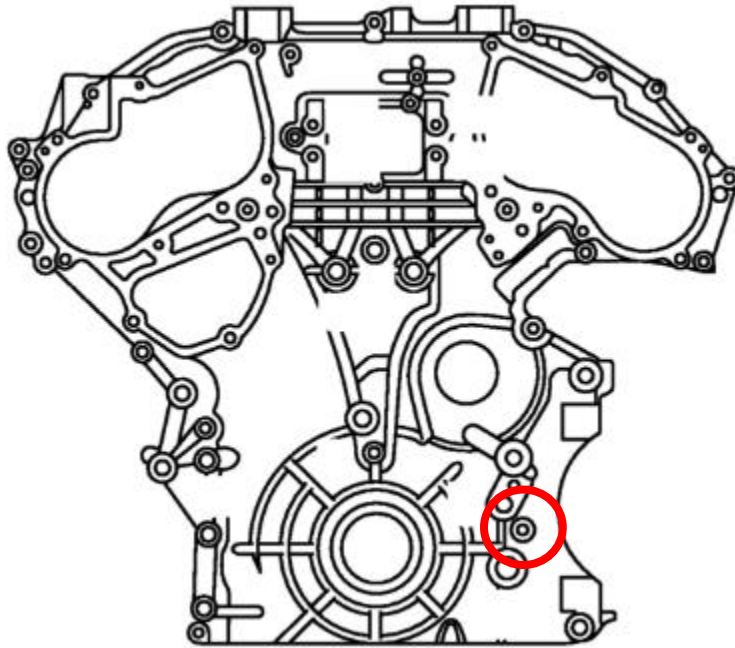

Figure 4
12. Remove the bolt circled below on the Timing Cover. *Figure 4.*